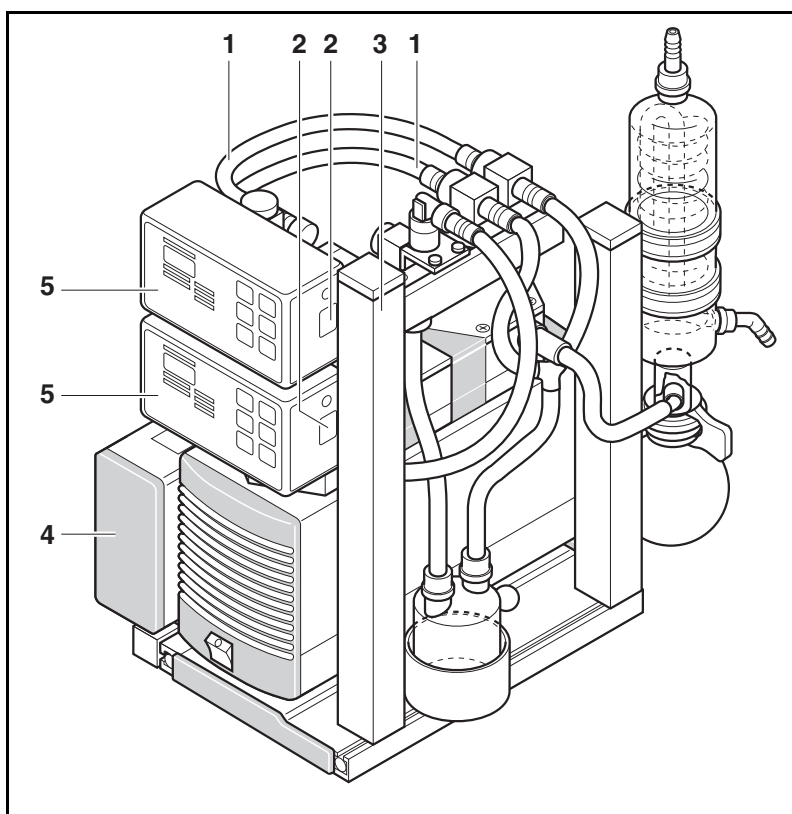

Fig. 8: Vacuum controller (shown: LABOPORT system SCC with pump N 840.3 FT.18 as example)
1. Slide the electrical supply unit (see fig. 8/4) with both tightening nuts into the baseplate's lateral slotted bar.
1. Slide the support's attachment part (see fig. 8/3) into the baseplate's lateral, upward-pointing slotted bar.